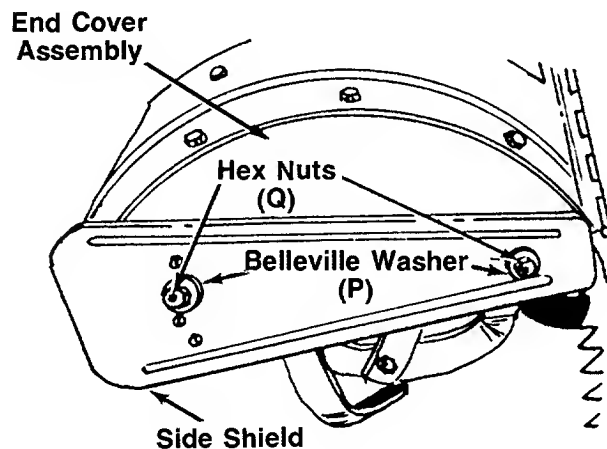

FIGURE 5.
Mount side shields (AB) over the weld bolts on the end cover assemblies. Secure with belleville washers (P) and hex nuts (Q). Crowned side of washers go against the hex nuts. See figure 5.